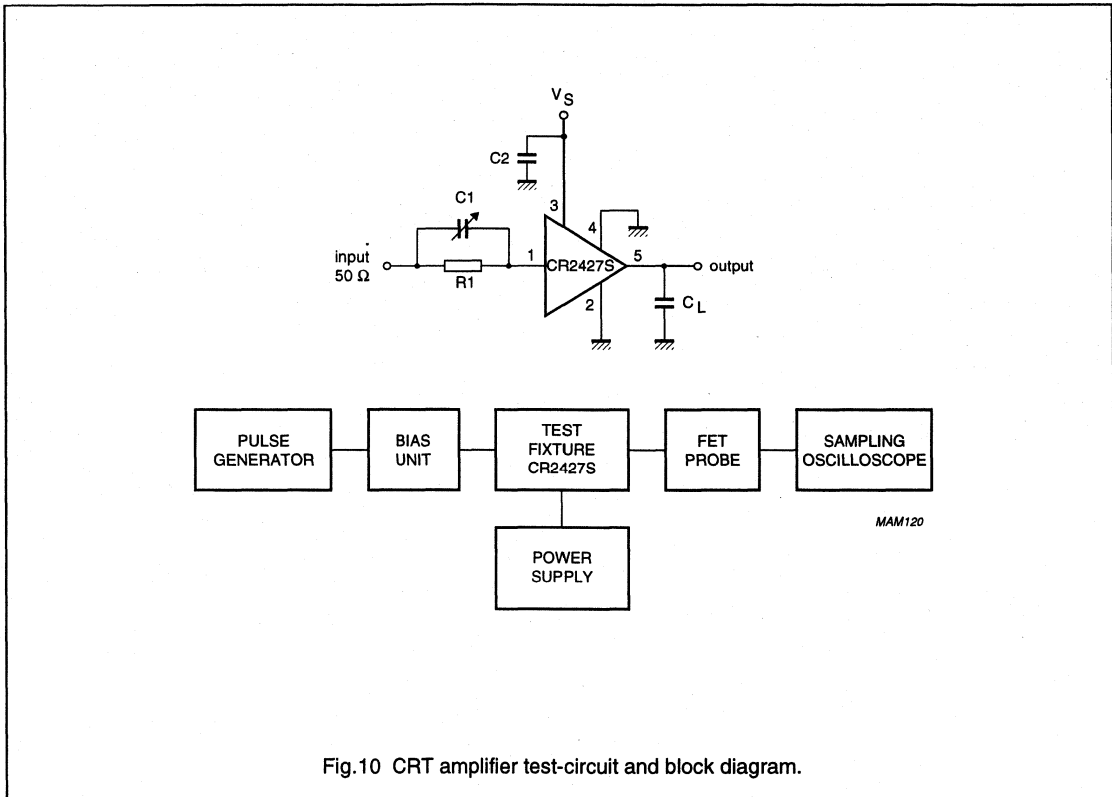

Fig.10 CRT amplifier test-circuit and block diagram.
1. Input signal is a nominal 100 kHz square wave of 3.25 V (p-p), with 1.5 V (DC) offset (50 Ω source).
2. Input signal is a nominal 100 kHz square wave of 3.4 V (p-p), with 1.65 V (DC) offset (50 Ω source).
4. Measured V_O/V_I (Figs 2 and 6) at input test circuit (see Fig.10).
5. Measured V_O/V_I (Figs 3 and 7) at input module (see Fig.10).
Components used in test-circuit (see Fig.10)
Equipment used in test-circuit (see Fig.10)